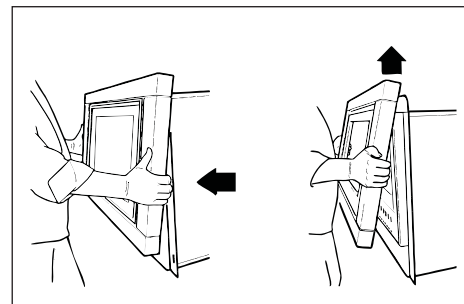
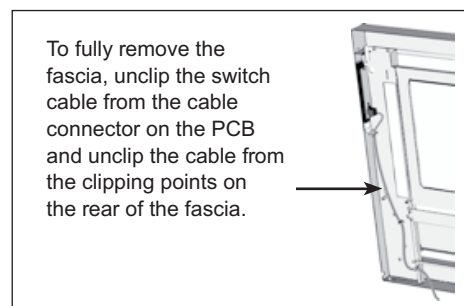

FIG 8
FIG 9
2. Remove 4 M5 screws fixing the fascia assembly to the heater body. Bring the bottom of the fascia towards you gently to partly disengage it from the body of the heater. After it has been disengaged gently lift it up vertically to completely disengage it from the body of the heater. Refer **FIG 8** & **FIG 9**.